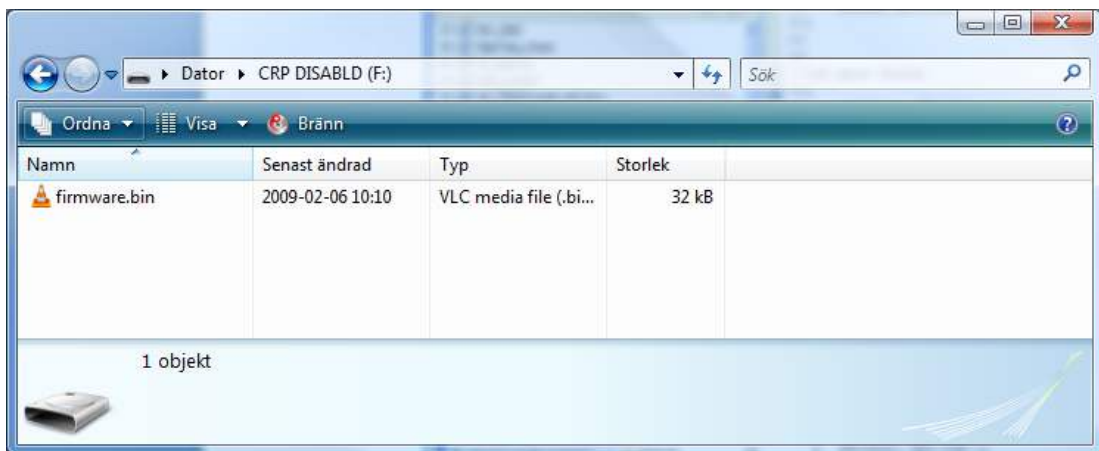

Figure 8 – Mass Storage Device
6. Press down the bootloader push-button (SW2) and then press and release the reset push-button (SW1) on the *LPC11U35 QuickStart Board*. A storage device named CRP DISABLED will now appear on your computer, see *Figure 8*.